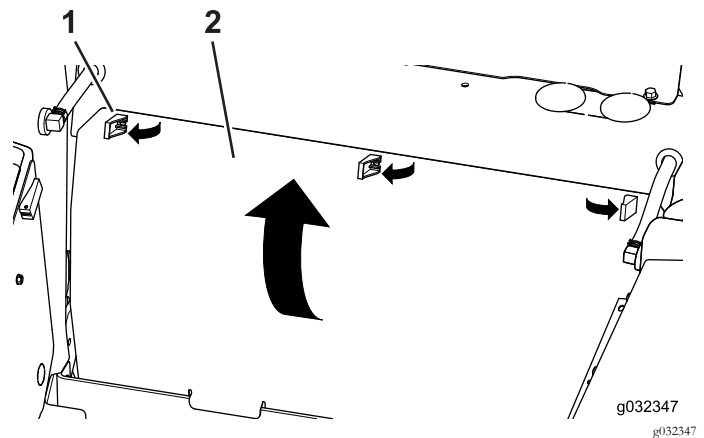

Figure 7
2. Toggle the 3 swell latches and remove the rear panel (Figure 7).